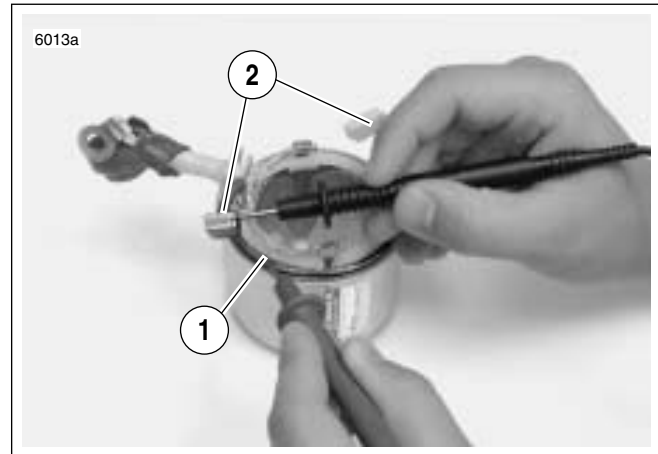
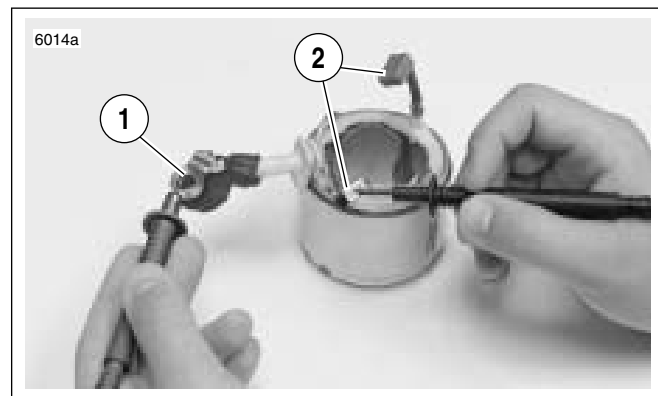
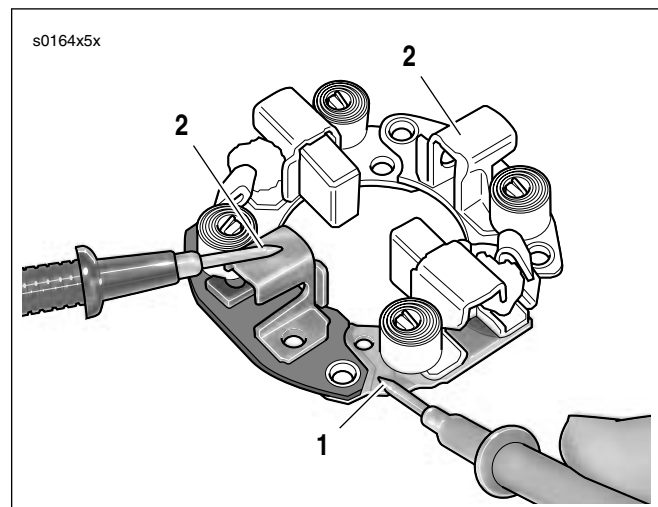
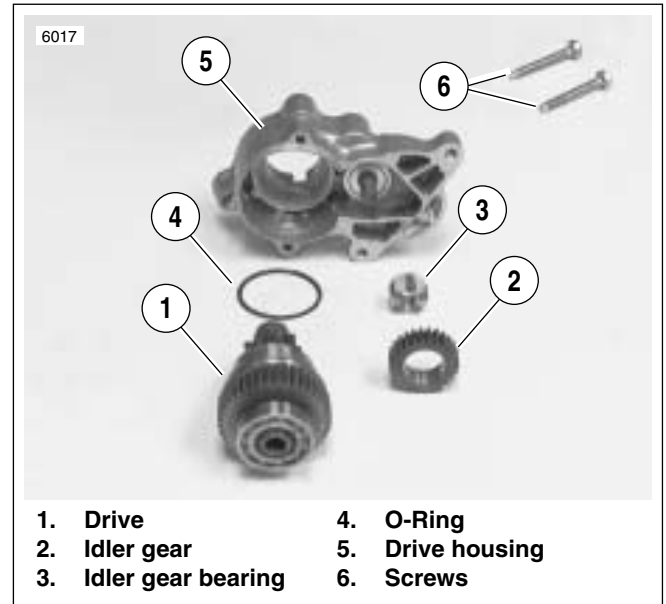

Figure 5-21. Grounded Field Test
Figure 5-22. Open Field Test
Figure 5-23. Brush Holder Insulation Test
Figure 5-24. Starter Drive Assembly
12. See Figure 5-21. Check for GROUNDED FIELD COIL with an ohmmeter or continuity tester.
- a. Touch one probe to the frame (1).
- b. Touch the other probe to each of the brushes (2) attached to the field coil.
13. See Figure 5-22. Check for OPEN FIELD COILS with an ohmmeter or continuity tester.
- a. Touch one probe to the field wire (1).
- b. Touch the other probe to each of the brushes attached to the field coil(s) (2).
14. See Figure 5-23. Test BRUSH HOLDER INSULATION with an ohmmeter or continuity tester.
- a. Touch one probe to holder plate (1).
- b. Touch the other probe to each of the positive (insulated) brush holders (2).
15. See Figure 5-24. Remove two drive housing mounting screws (6). Remove drive housing (5) from solenoid housing.
16. Remove drive (1), idler gear (2), idler gear bearing (3), and O-ring (4) from drive housing (O-ring is located in drive housing groove).
1. See Figure 5-24. Clean, inspect and lubricate drive assembly components. Lubricate parts with high temperature grease, such as LUBRIPLATE 110.